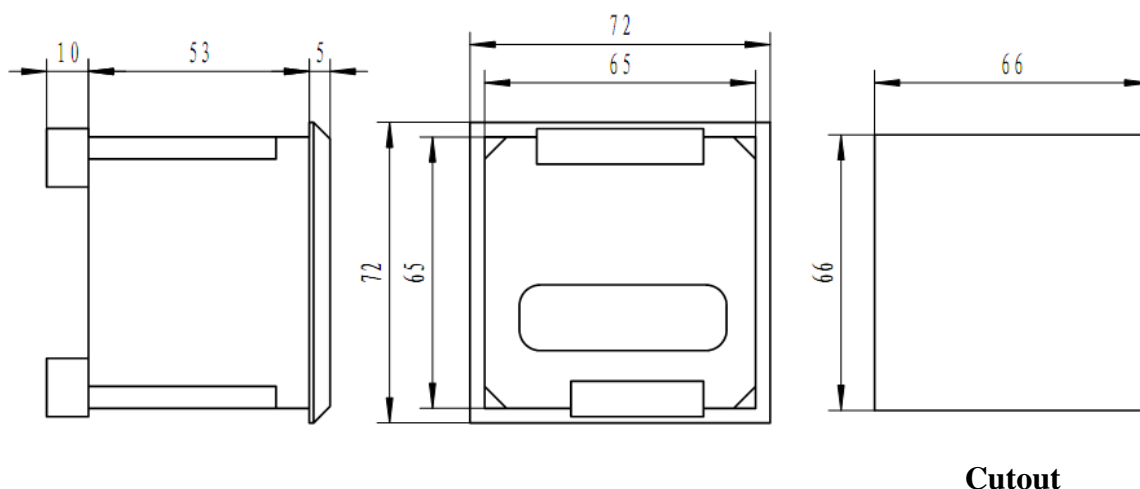

Fig. 1 Outline and installing dimension
4.1 The dimensional drawing of install cutout on panel, shown as Fig.1 .